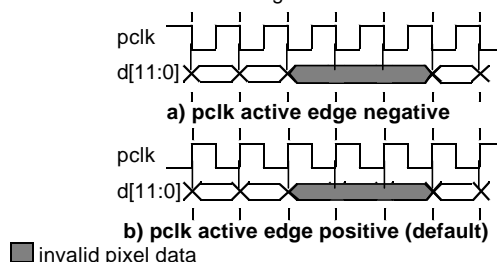

Figure 35. *clk* in Free Running Mode
- In free running mode the pixel clock output pin, *clk*, is always running with a fixed period. Pixel data appearing on the digital video bus $d[11:0]$ are synchronized to a specified active edge of the clock as shown in Figure 35.